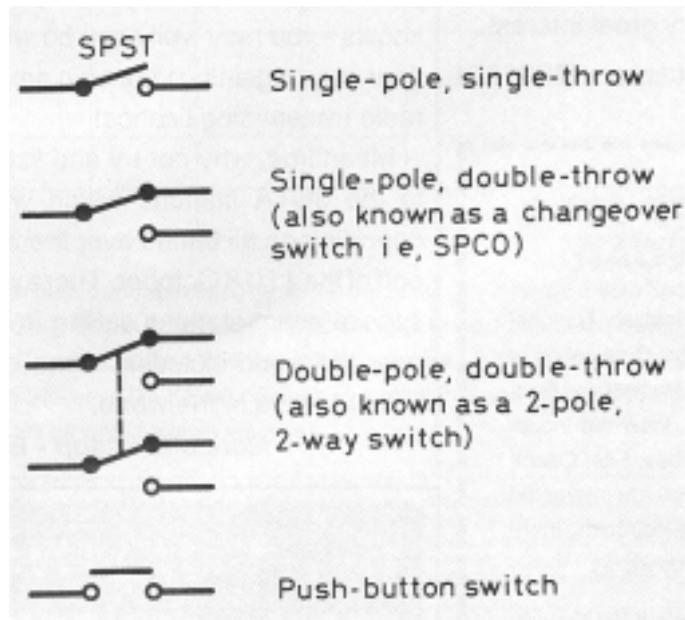

Figure 1 Some circuit symbols for different types of switch
2. **Number of poles.** A single switch can control many circuits; the number of poles tells you *how many* different circuits it can handle. See **Figure 1**.
3. **Number of throws.** This tells you the number of positions each pole can have. This is best illustrated in Figure 1. The simplest ON/OFF switch is a Single-Pole, Single-Throw (SPST) switch. A Single-Pole,
Double-Throw (SPDT) switch may also be used as an ON/OFF switch, but is used mainly to change between two parts of a circuit, and is commonly known as a Single-Pole Change-Over (SPCO) switch. Two or more SPCO switches can be operated at once; Figure 1 shows an example. The two switches are said to be *ganged*. See also 'Types of switch' below.